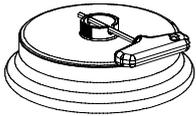

Fig. 5
- To screw down or loosen the lid, insert the provided spanner through the hole in the lid, see Fig. 5.